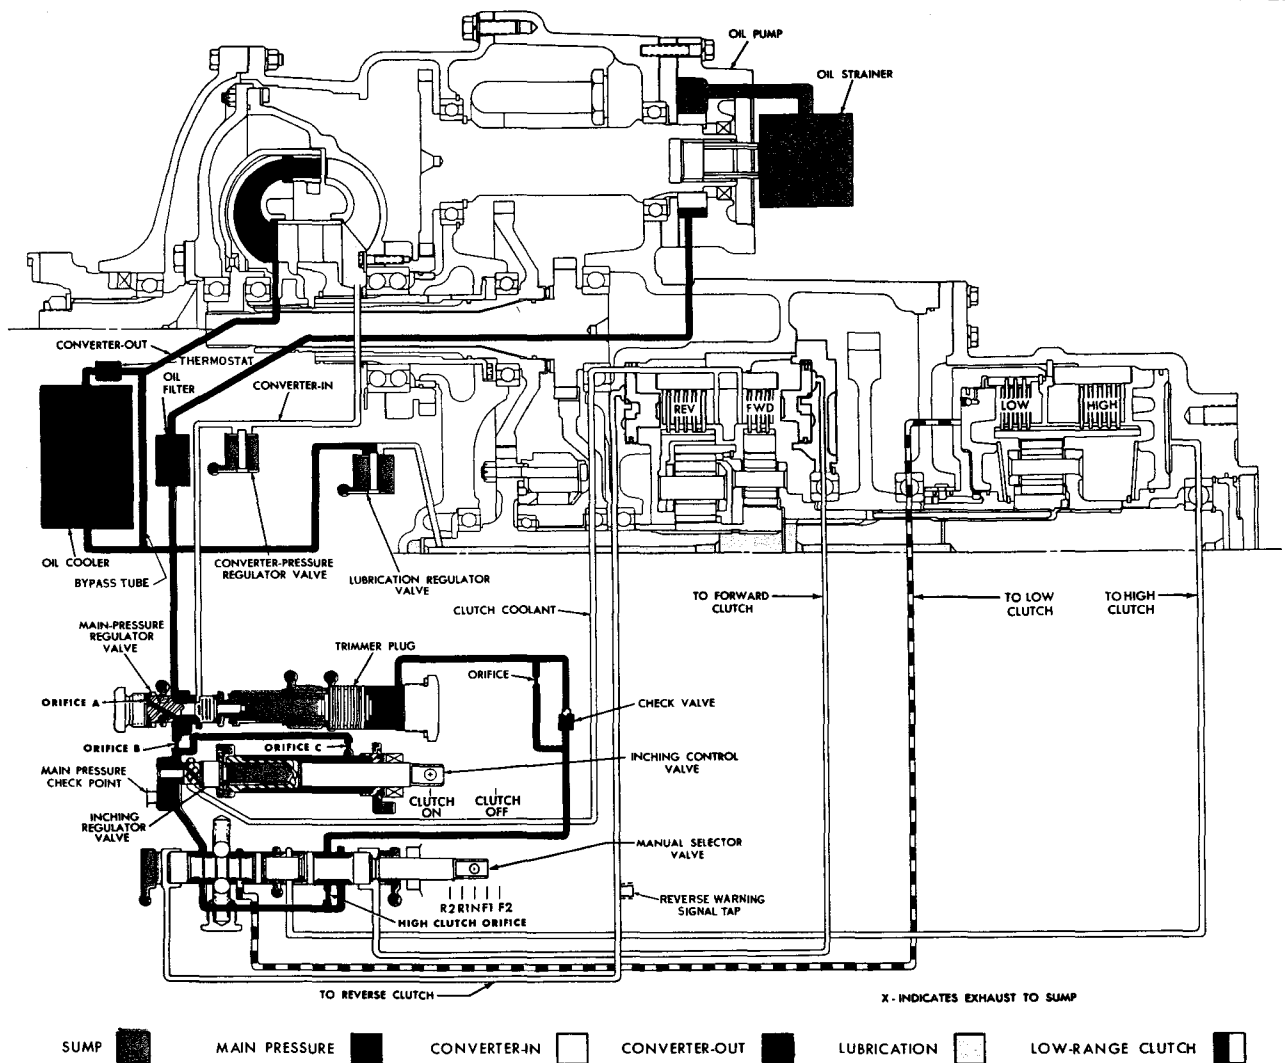

Fig. 2-2. TRT 2221-1 hydraulic system with inching control—schematic view
2-13. TRT 2221-1, 2421-1 HYDRAULIC SYSTEM (with inching control) (fig. 2-2)
(2) Main pressure at the left pushes the inching regulator valve rightward against a spring which seats in the left end of the inching control valve. When the inching control valve is released (retracted), main pressure and spring force at its right end are sufficient to hold it leftward. This exerts sufficient pressure on the regulator spring to hold the inching regulator valve leftward far enough to prevent oil escaping to the clutch coolant passage. Thus, main pressure is retained at the left end of the inching regulator valve.
(3) When the inching control is actuated, the valve is pulled rightward (extended). This reduces the force of the spring acting against the inching regulator valve, permitting the valve to move rightward. This uncovers a port which directs cooling oil to the clutch which slips or releases during inching. The amount of oil which goes to the slipping clutch depends upon the degree of movement of the inching control valve. The escape of oil into the clutch coolant line reduces main pressure, which causes the driving clutch to slip. Orifice B, directly below the main-pressure regulator valve restricts oil flow, causing a lower pressure downstream from the orifice.
(4) Full movement, rightward, of the inching control valve will completely release the driving clutch. Any degree of clutch engagement is possible by allowing the control to retract.
e. Manual Selector Valve Circuit (fig. 2-2)
(1) Main-pressure oil from orifice B flows into the manual selector valve bore and surrounds the valve in the area of the detent notches. From this area, main oil flows, regardless of valve position, to another area at the right surrounding the valve. Here it is